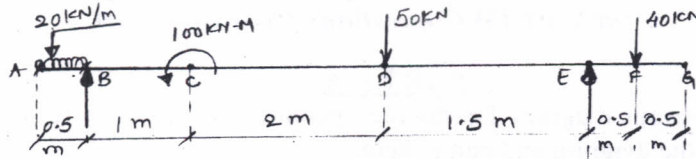

Fig.Q4(b) (14 Marks)
- b. Draw shear force and bending moment diagram for the beam loaded as shown in Fig.Q4(b). Also locate the points of contra flexures. (14 Marks)